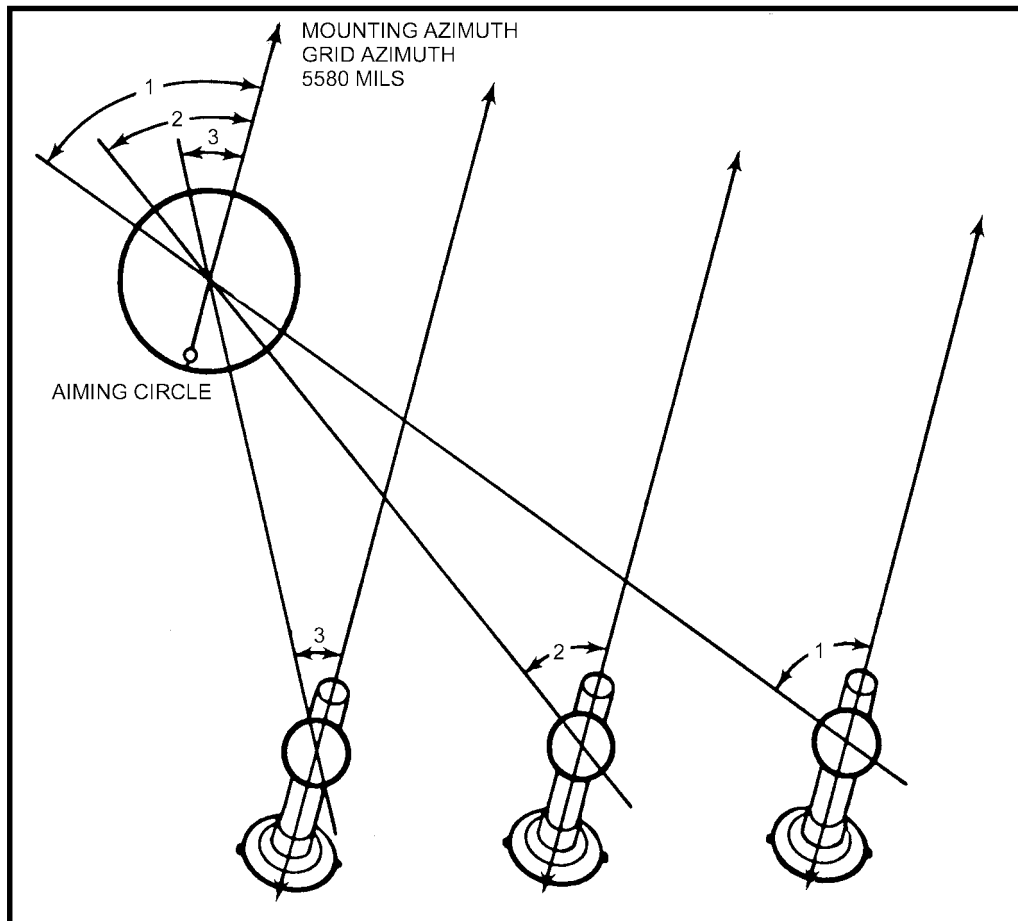

Figure 2-29. Mortars laid parallel in the desired azimuth.
(11) The above procedure is repeated until the mortar sight and aiming circle are sighted on each other with a difference of not more than ONE mil between the deflection readings. When so laid, the gunner announces, "Number two (one or three), zero mils (one mil), mortar laid." The mortar barrel is now laid parallel to the 0-3200 line of the aiming circle.
(12) The platoon sergeant (section sergeant) uses the same procedure to lay each of the other mortars in the section parallel. When all mortars are parallel to the 0-3200 line of the aiming circle, they are parallel to each other and laid in the desired azimuth (Figure 2-29).